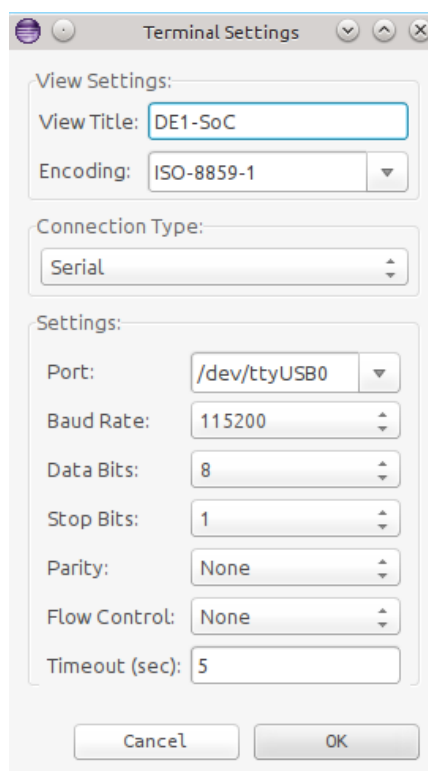

Figure 13-14. ARM DS-5 Serial Terminal Settings
65. Modify the serial terminal’s settings to match those shown in Figure 13-14, then press “OK” to start the connection.